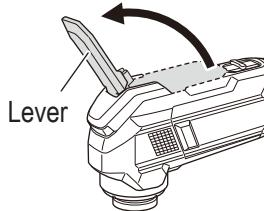

Fig. 9
(1) Pull the lever up. (Fig. 9)